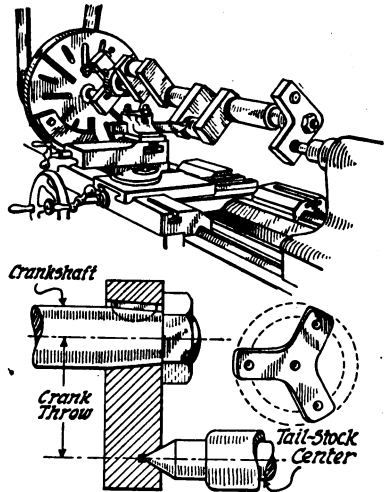

Fig. 74. Fixture and Lathe Jig for Turning Six-Cylinder Crankshafts
*Handling Three-Throw Shafts.* The rigging just described is for four-cylinder shafts only, as these have the throws all in one plane, so that, although three different centers are required, they lie in one straight line, and the flange can be very simple for this reason. With a six-cylinder shaft, on the other hand, this is not the case; and a much larger flange is needed, for the three pin centers are spread out fan-like around the main bearing center. A form is shown in Fig. 74, which can be used for a shaft of this general type, although the one shown in the lathe provides for two pins only, not for three. For a six-cylinder engine of ordinary crankshaft construction, this would have to be like the triangular sketch at the lower right, if it is carried out on the same plan; or with the same bearing and pin centers, and a round outline as shown by the dotted line, if there was no necessity for saving metal.